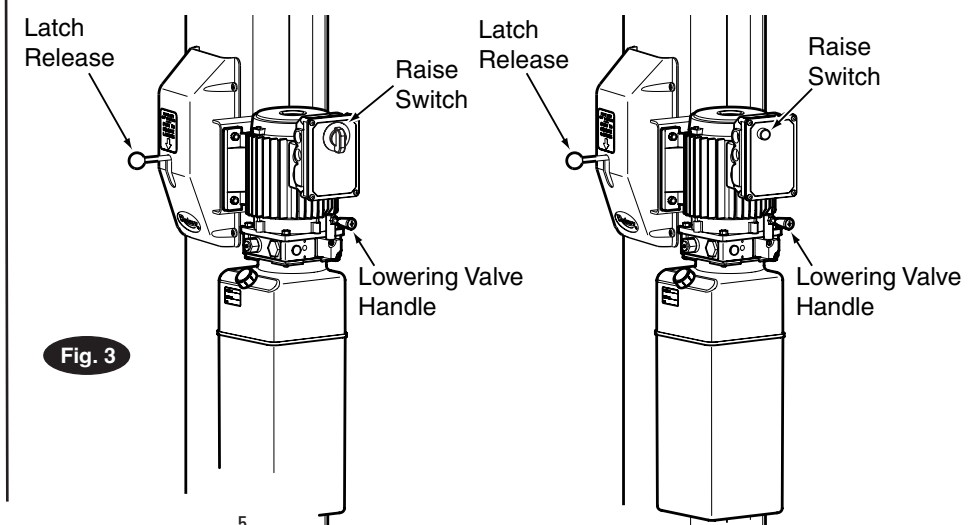

Fig. 3
- For all lifts. Push RAISE switch on power unit, Fig. 3.
- Push LOWERING valve handle to lower, Fig. 3.